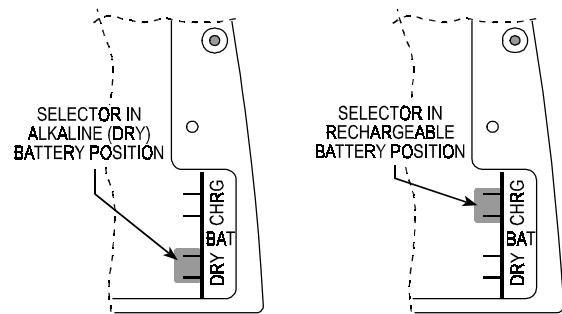

Figure 13. Battery Selector Positions
**CAUTION!** If you replace rechargeable cells with alkaline (dry) cells or vice versa, mount the battery-type selector in the correct position (CHRG for rechargeable cells and DRY for alkaline cells - see Figure 13).